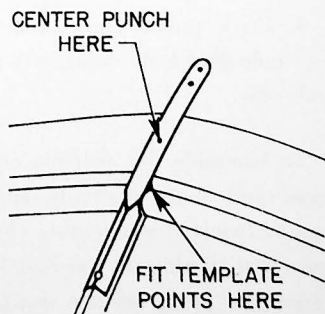

Fig. 2
3. Locate the roof hole by laying the metal template on the upper end of the windshield divider strip so the two small points rest in the groove formed by the rubber around the windshield and the metal header panel (see Fig. 2).